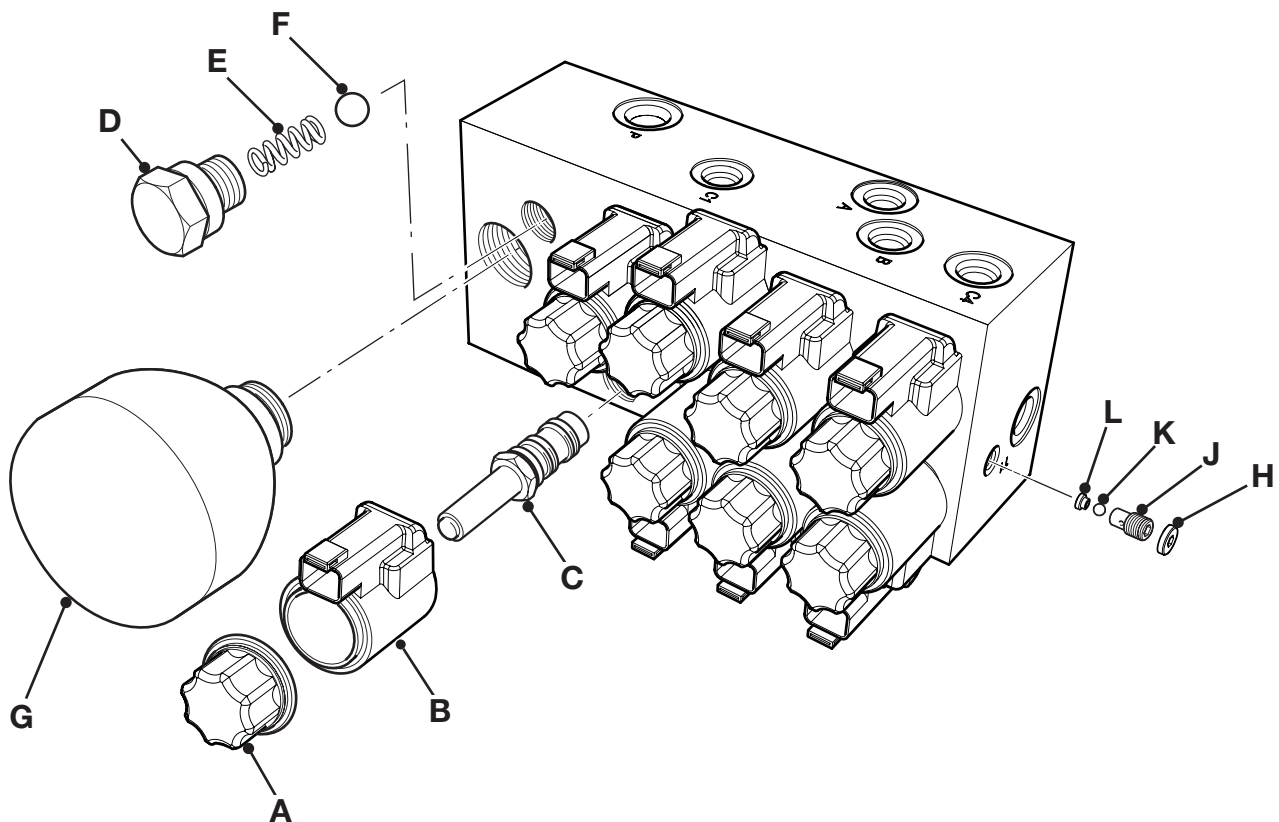

Fig 2.
- 2 Disconnect all the electrical connections to the solenoids **B**, labelling which connector goes to which solenoid. → Fig 2. \(E-119\).